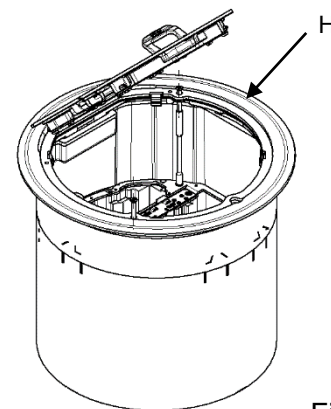

Fig. 4
6. Install cover assembly (H), S1R10CVRxxx series, to the service fitting (D) using retained screws and torque to 10-12 in-lbs (1,1-1,4 Nm) as shown in Fig. 4. DO NOT OVERTIGHTEN. If purchased separately, the cover assembly will be supplied with additional mounting screws. Discard installation plate (A) and installation tubes (B).